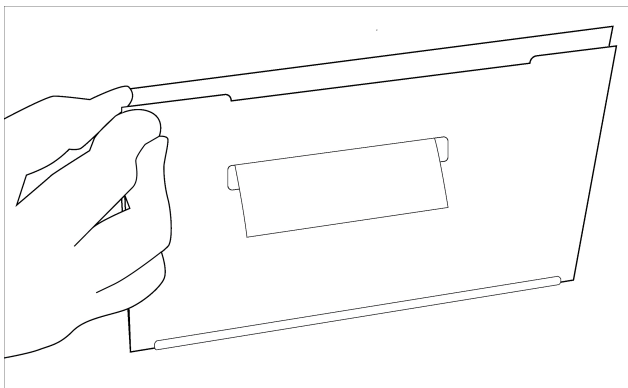

Figure 4-8. Threading the paper through the slot
8. Thread the printer paper through the paper slot in the printer access door (Figure 4-8).